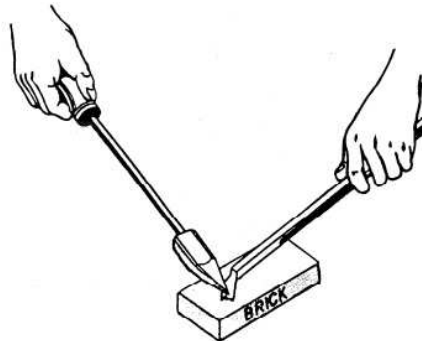

Figure 4 - Tinning a copper (solder placed directly on copper).
7. Apply solder to the copper until it is tinned. You may rub the solder directly onto the copper, or place it on the cake of sal ammoniac. Do not push the iron into the cake of sal ammoniac, because this can split the cake. When sal ammoniac is not available, use powdered rosin instead. In this instance, place the powdered rosin on top of a brick. Rub the copper back and forth to pick up the rosin and then place the solder directly onto the copper. (See fig. 4.)